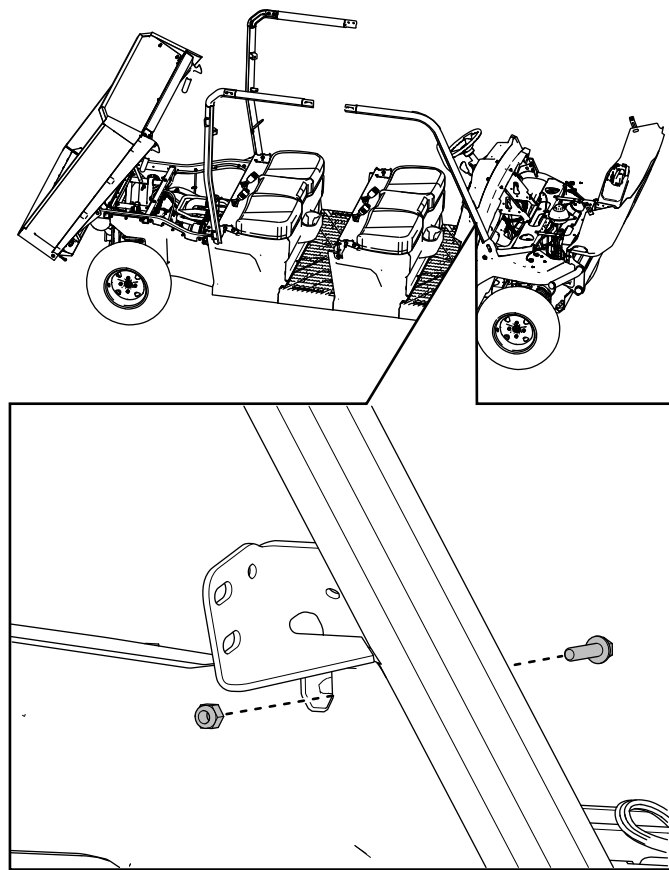

Figure 45
11. Loosely secure the right, front roll bar assembly to the dash panel using 1 hex-washer head bolt (1/4 x 1 inch) and 1 locknut (1/4 inch) as shown in Figure 45.